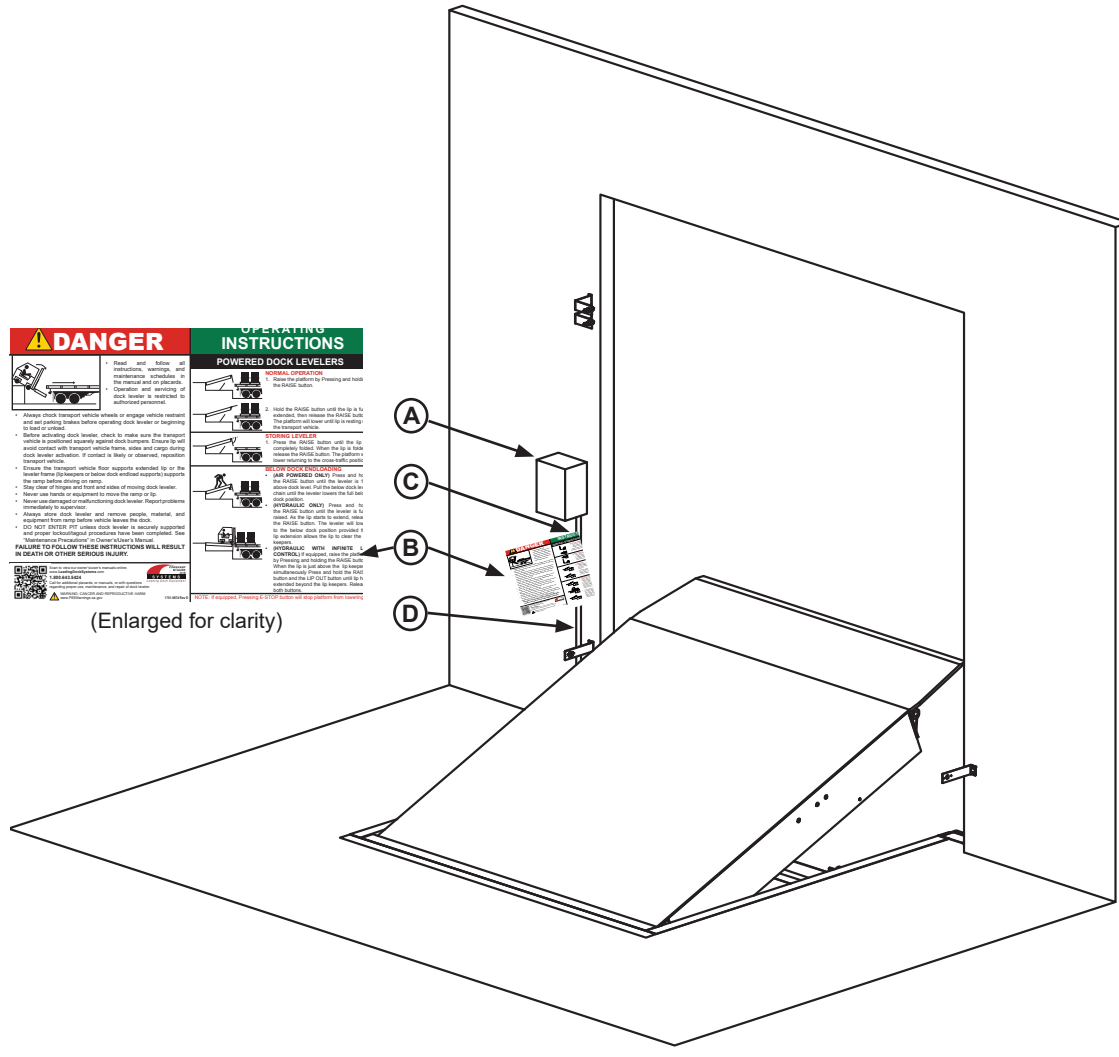

Figure 15
1. If wall-mounting, mount the control panel (A) so bottom of control panel-to-dock floor distance is approximately 48 in. (1219 mm). See **Figure 15**. If stanchion-mounting, mount control box to stanchion in desired location. See **Figure 14**.